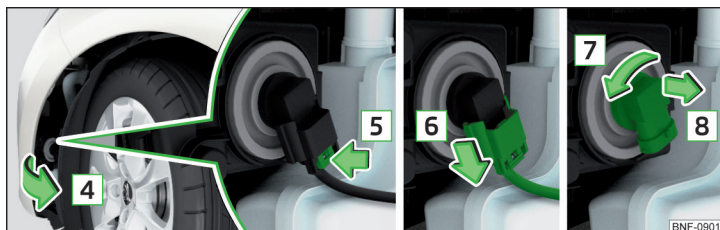

Fig. 177 Changing a bulb
- Open out the wheel house trim in the direction of arrow **4** » Fig. 177.